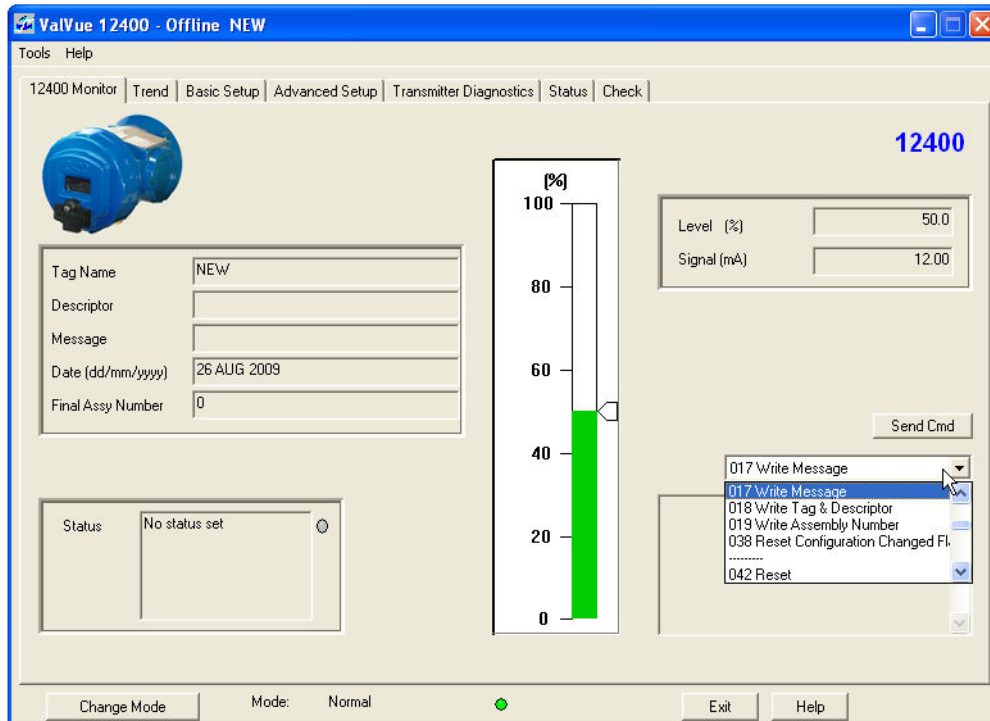

Figure 118 Selecting Write Message Command
1. Select **Write Message** from the drop down list of commands (Figure 118).